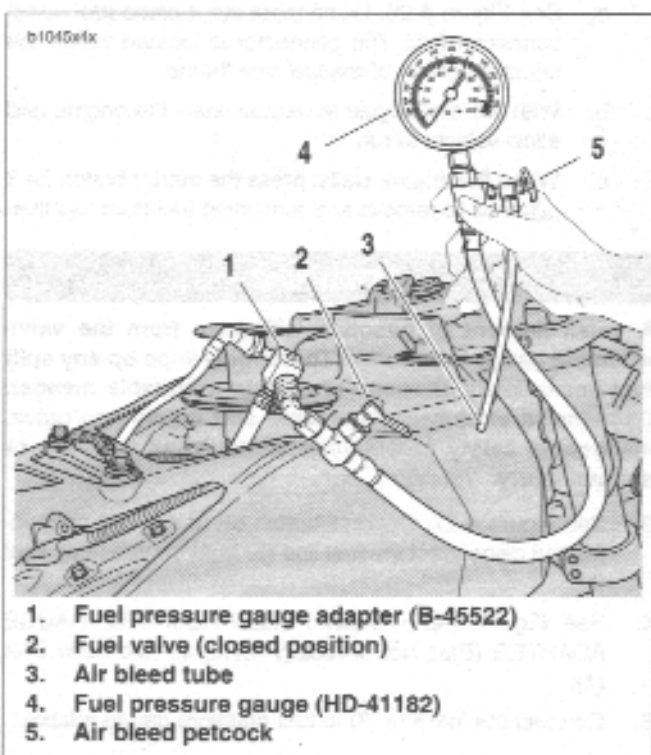

Figure 4-29. Fuel Pressure Gauge (Part No. HD-41182)
See Figure 4-29. Verify that fuel valve (2) and air bleed petcock (5) on the gauge are closed.
6. Attach FUEL PRESSURE GAUGE (Part No. HD-41182) (4) to fuel pressure gauge adapter (1).
8. See Figure 4-29. Pressurize the fuel system.
- b. Open fuel valve (2) on fuel pressure gauge to allow fuel to flow down the gauge hose.
- c. Position the air bleed tube (3) into proper container.
- d. Open and close the air bleed petcock (5) to purge the fuel pressure gauge and hose of air. Repeat this step several times until only solid fuel (without bubbles) flows from the air bleed tube.
10. See Figure 4-29. Turn engine off. Detach pressure gauge (4) from adapter (1).
- a. Open the air bleed petcock (5) to relieve fuel system pressure and purge the pressure gauge of gasoline.